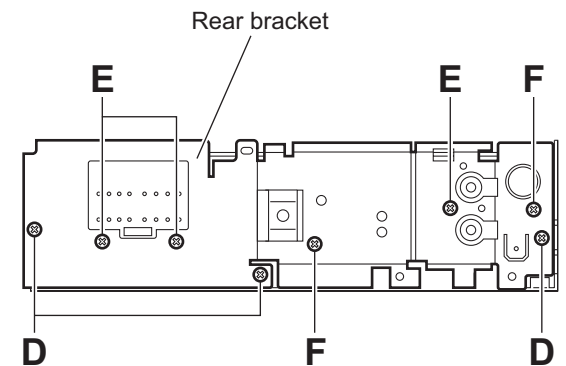

Fig.5
(See Fig.5)
(See Figs.5 and 6)
- (1) Remove the three screws **D** attaching the rear bracket on the back side of the main body. (See Fig.5.)